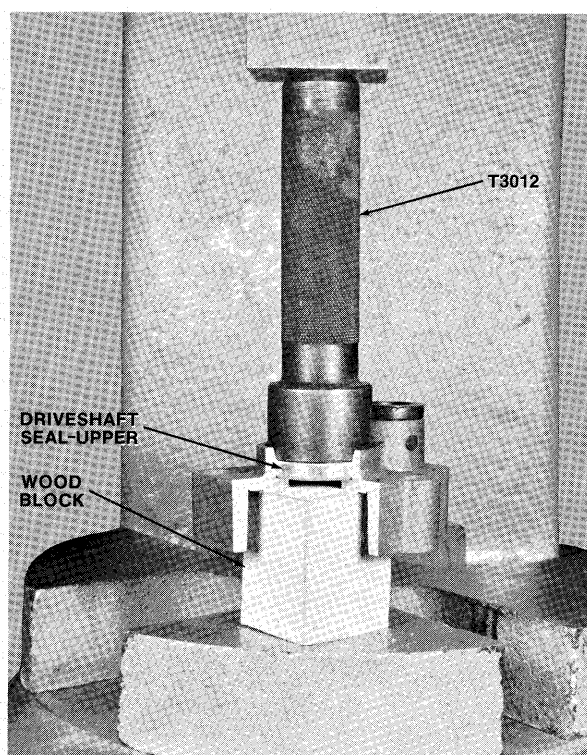

Figure 1—Installing Driveshaft Seal
- A. Place water pump body on wood block which supports inside top surface of pump body to prevent top surface of pump body from collapsing when installing driveshaft seal. Press driveshaft seal (garter spring on major sealing lip positioned out) in seal bore of pump body using seal installer (Special Tool T3012) as shown in figure 1.